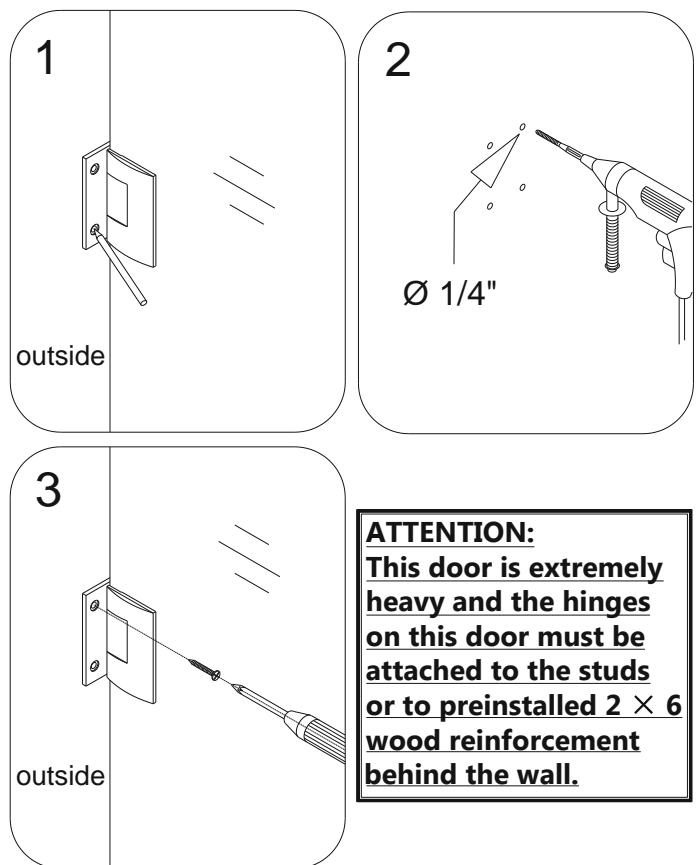
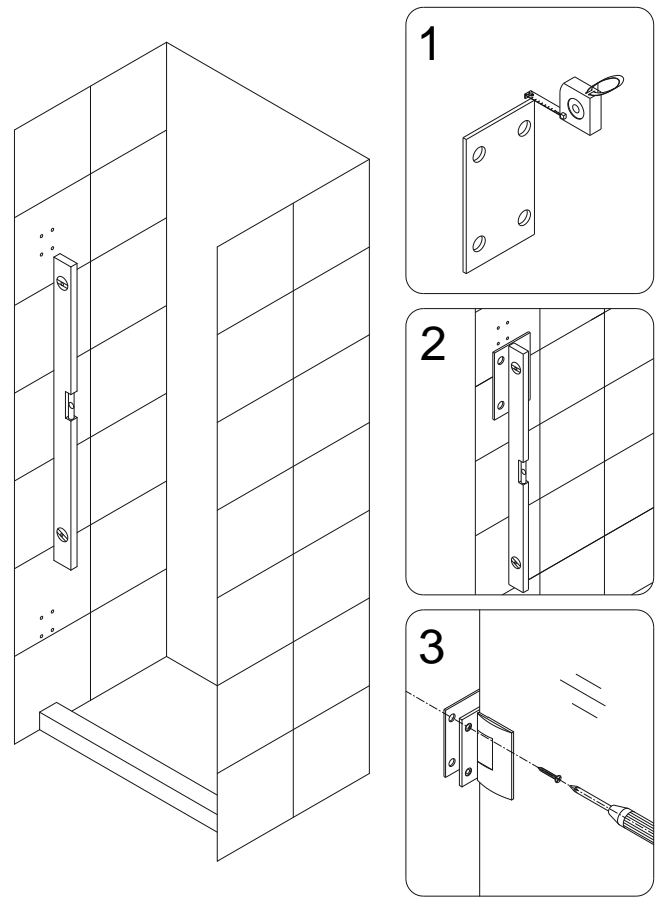

Fig. 3
Fig. 4
3. Hold the door in place and mark the drill holes for both **Hinges (05)** on the wall. Set the door aside and drill the holes in the wall using  $\varnothing 1/4"$  drill bit.
**The included PVC hinge spacers (31) are provided to compensate for minor out-of-plumb wall conditions. Use only as needed as their use could compromise the opening size of your shower. Please see Fig 4 for an installation example.**
See Fig. 3 and Fig. 4 for details.